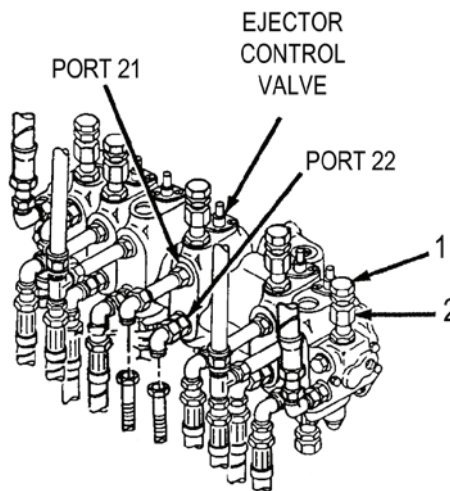

Figure 6. Main Relief Valve 13L
- Loosen jam nut (Figure 6, item 2) on main relief valve 13L.
- While observing transducer T-4 hydraulic pressure on the HDC display (Figure 8, item 1); rotate adjusting screw (Figure 6, item 1) clockwise to increase hydraulic pressure, counterclockwise to decrease hydraulic pressure until desired pressure is obtained; tighten jam nut.